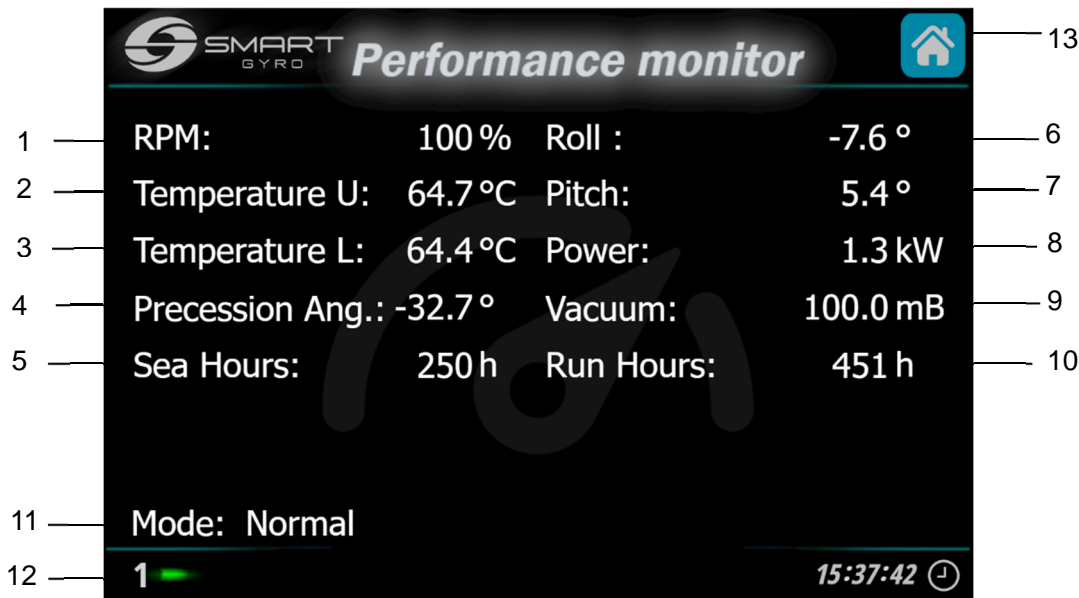

Figure 33
Pressing the Performance monitor page icon (Figure 17, (4)) will take you to the Performance monitor page (Figure 33).